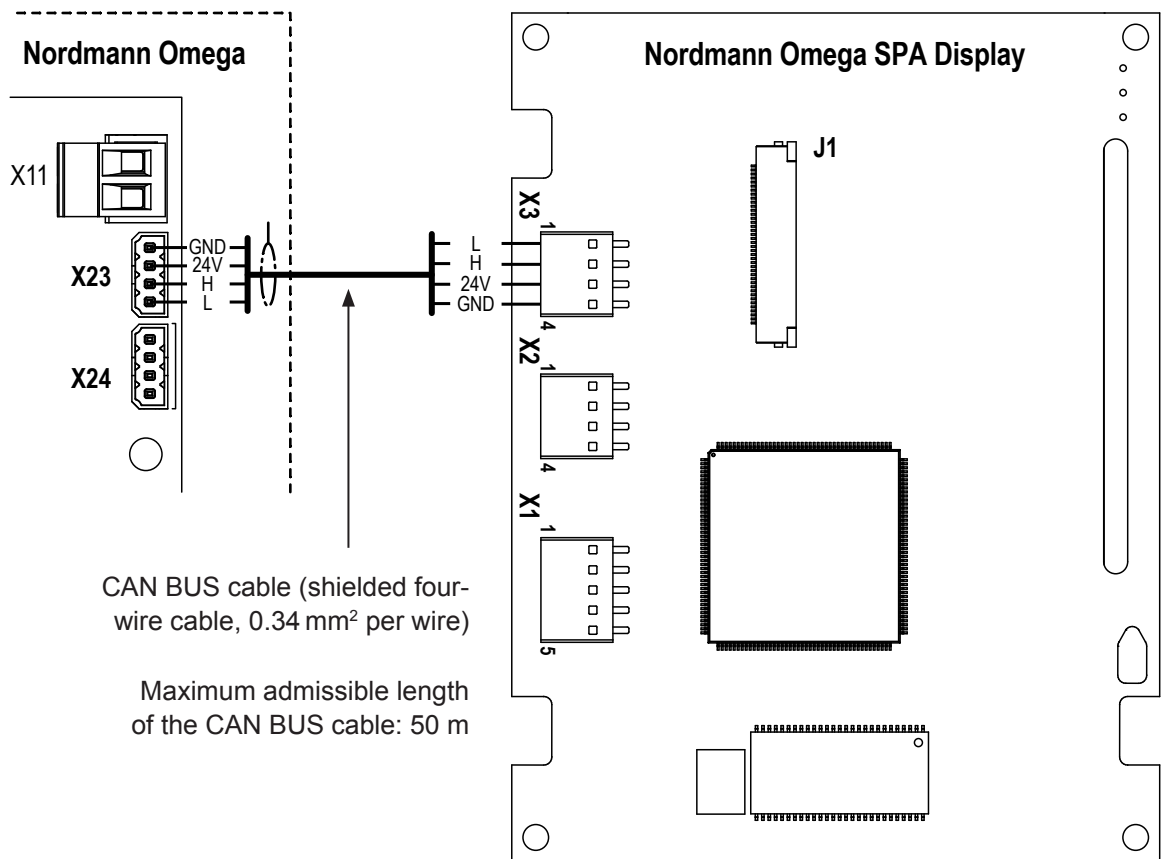
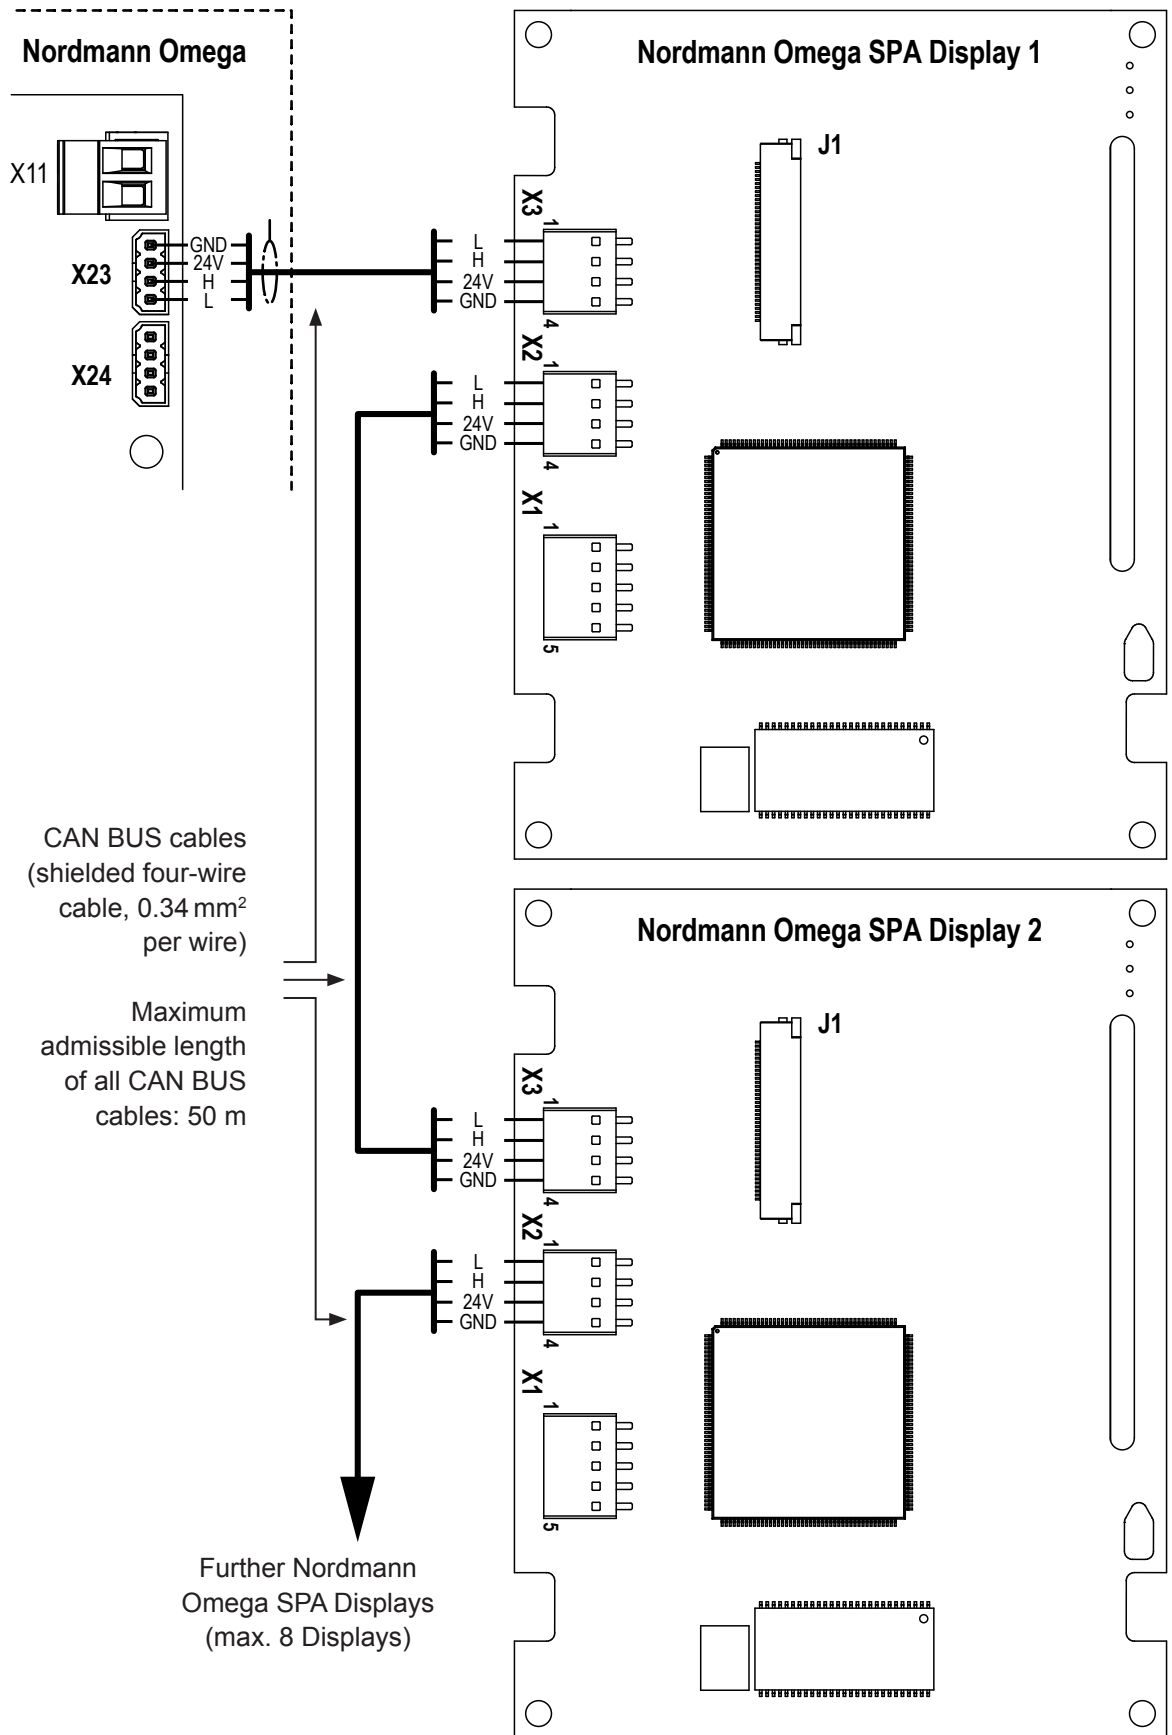

Fig. 18: Wiring diagram variant 1 with one Nordmann Omega SPA Display
Fig. 19: Wiring diagram variant 2 with two or more Nordmann Omega SPA Displays
4. Connect the CAN BUS cable(s) according to the appropriate wiring diagram (see Fig. 18, Fig. 19 or Fig. 20) to socket "X23" and/or "X24" on the control board of the Nordmann Omega.